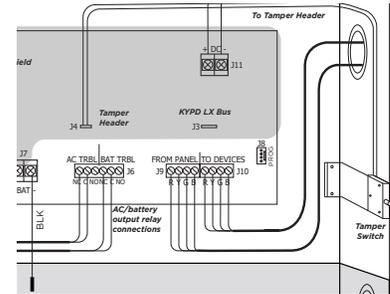

Figure 11: Tamper Switch Connection
1. Locate the **TAMPER** header. See Figure 11.